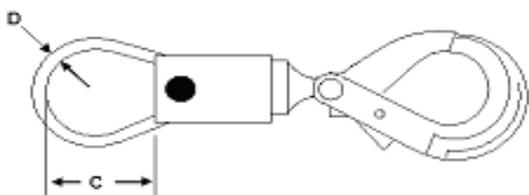

Figure 3. Swivel Dimensions
- c. Inspect the swivel for the dimensions shown in Figure 3 and Table 1. If dimensions exceed those in Table 1, remove the swivel from service.